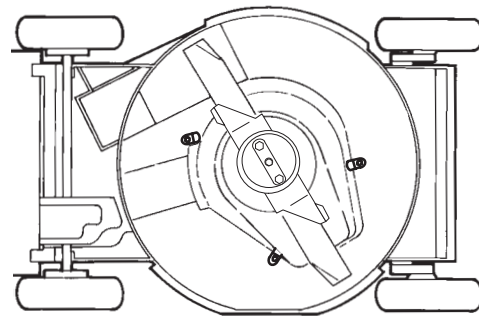

Figure 22
4. Tip the mower onto its **right** side (air filter up) (Fig. 22).